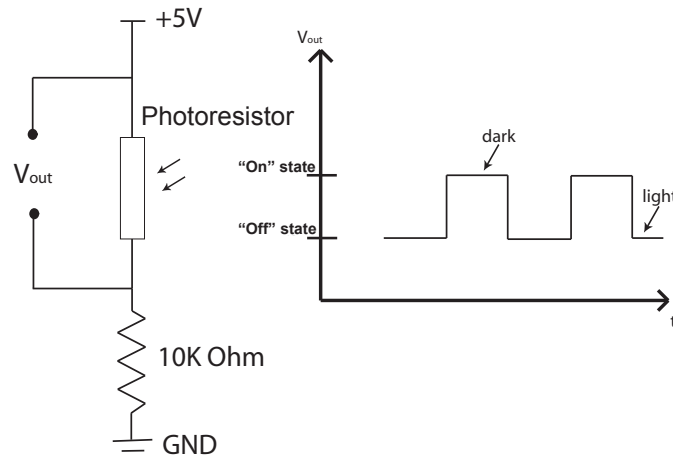

Figure 2: Speed Measurement Circuit.
The photoresistor acts as a switch that allows current to pass only when there is light shining on it. The resistance of the photoresistor drops from 10 K Ω to nearly 1 K Ω when the laser shines on it. The actual resistances are not so important but what is important is the change in the value when light shines on the photoresistor. You should set up the laser and photoresistor so that the laser beam is shining on the photoresistor. When the motor spins, the piece of tape that you've attached will intercept the beam and the photoresistor will switch off. You will be able to observe this on the oscilloscope connected in series with the 1 K Ω resistor and parallel with the photoresistor (circuit diagram shown below (Figure 2)). When the photoresistor is "on", most of the voltage will drop across the oscilloscope and it will read a "high" voltage (over 1V). When the photoresistor is "off," only some of the voltage will drop across the photoresistor and the oscilloscope will read a low voltage (less than 1V). As the motor spins, you will observe the voltage drop from "high" to "low" voltages with the same periodicity of the motor speed.
1. Connect the oscilloscope, voltage supply, and photoresistor together as shown in Figure 2 using alligator clips.